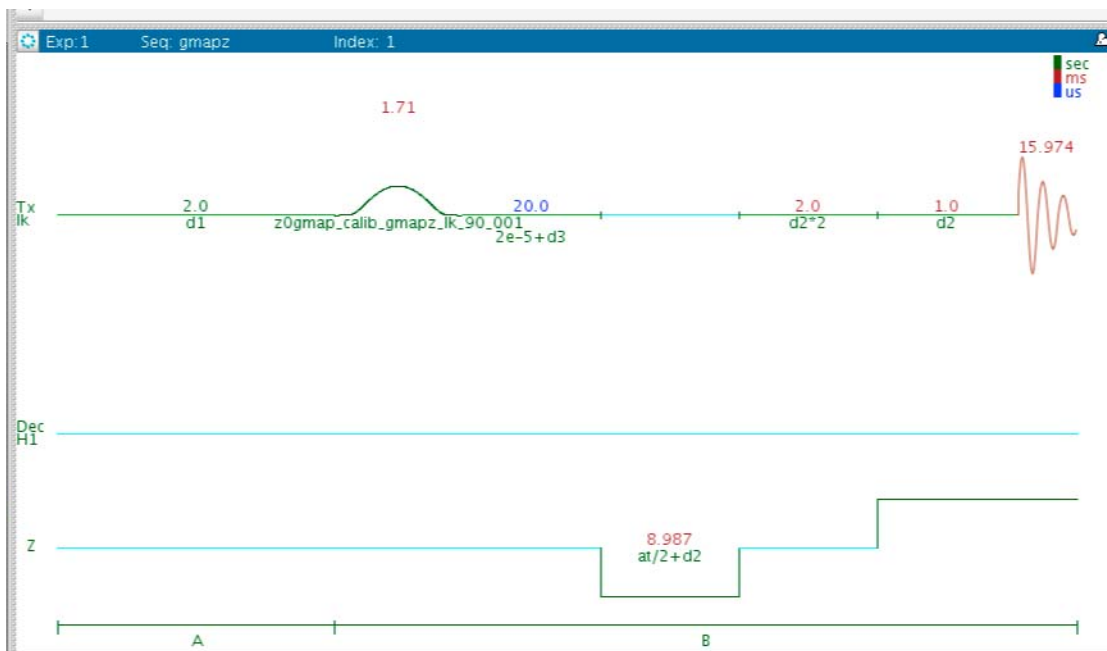

Figure 16 Pulse sequence using the selective pulse
- 5 The shaped pulse will be calculated automatically and loaded into the current parameter set. The graphics canvas will be updated to display the pulse sequence using the selective pulse (Figure 16).